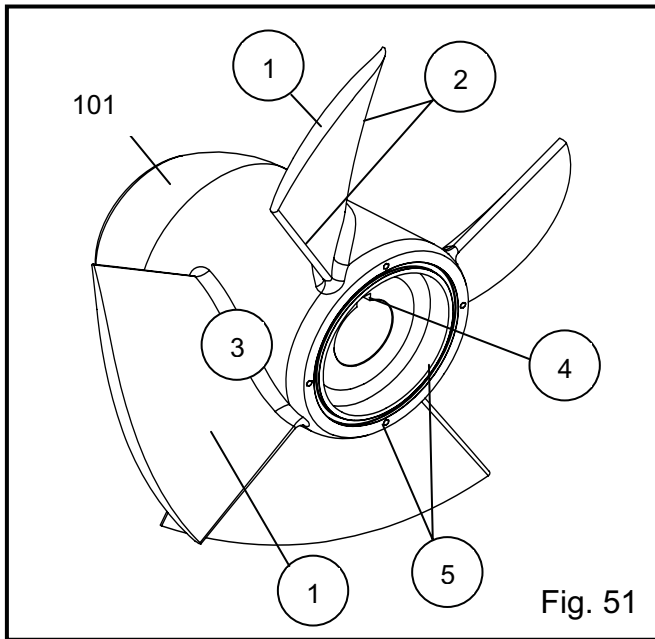

Fig. 51
1. Inspect impeller vanes for damage (101), Fig. 51. Check the vane O.D. for erosion. Check the vane surfaces, replace if grooved, worn or eroded deeper than 3/16 in. (5.0 mm.) Excessive impeller wear may cause a reduction in performance.